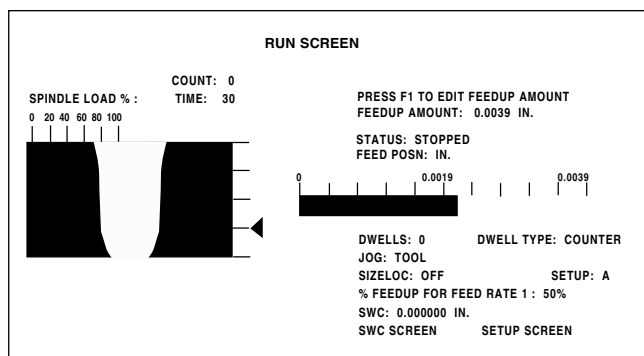

FIGURE 1, Run Screen
8. Toggle to RUN screen (*see Figure 1*).